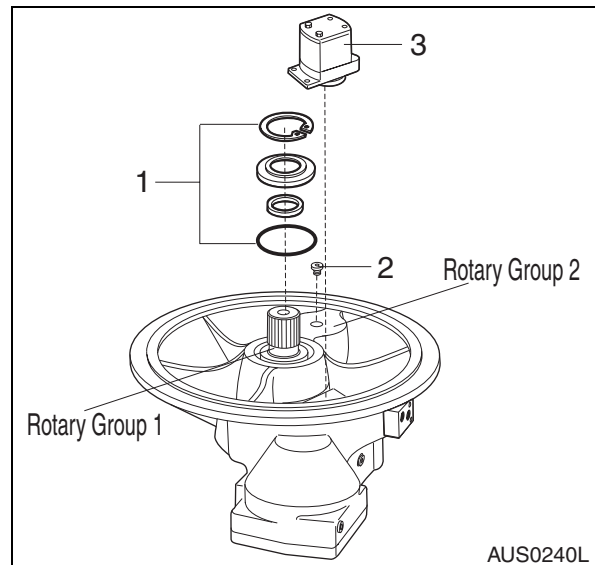

Figure 54
3. Note disassembly position: (1, 2 and 3, Figure 54).